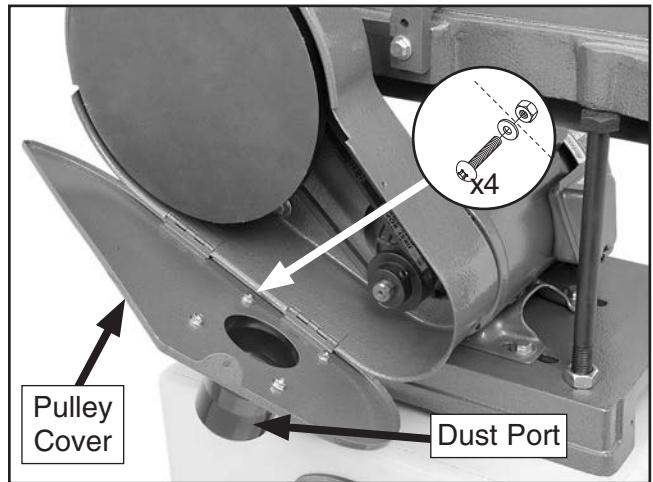

Figure 29. 2½" dust port installed.
10. Install the 2½" black plastic dust port onto the pulley cover with the (4) #10-24 Phillips head screws, #10-24 hex nuts and #10 flat washers, as shown in **Figure 29**.